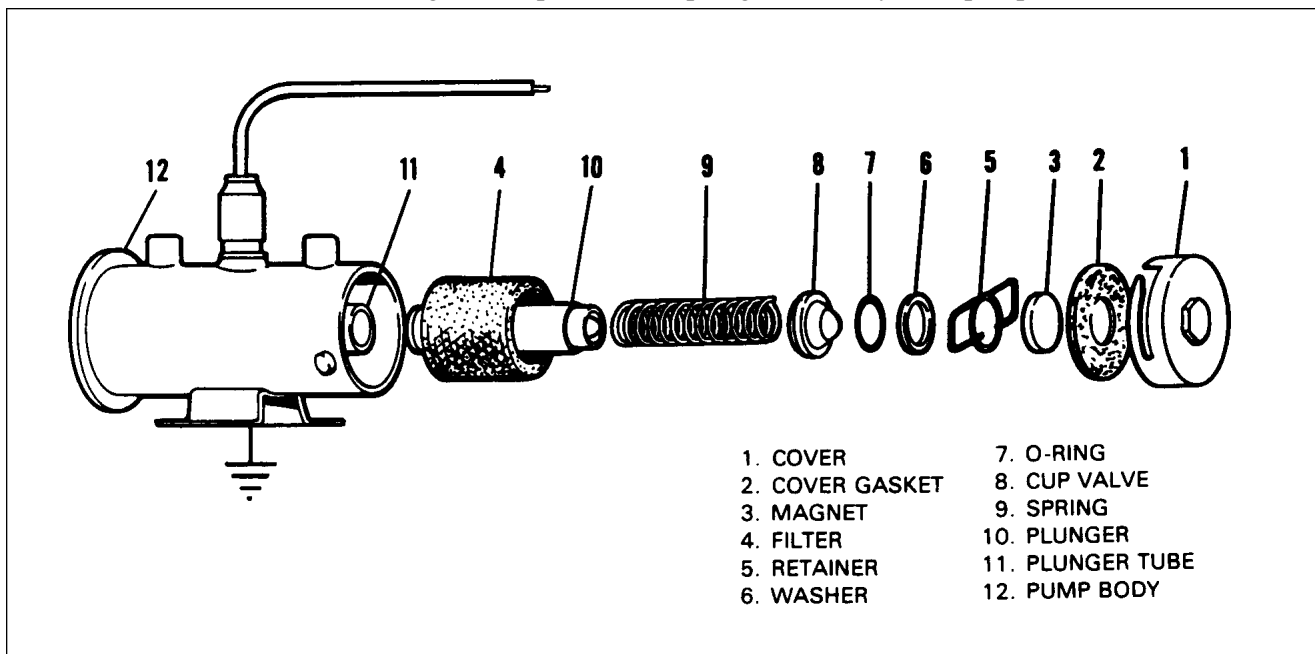

Figure 28-6. 14 Vdc and 28Vdc Electric Plunger Type Fuel Pump
- e. After torquing each fitting measure distance between face of union nut and face of tubing nut. (Refer to figure 28-6 for tolerance.)